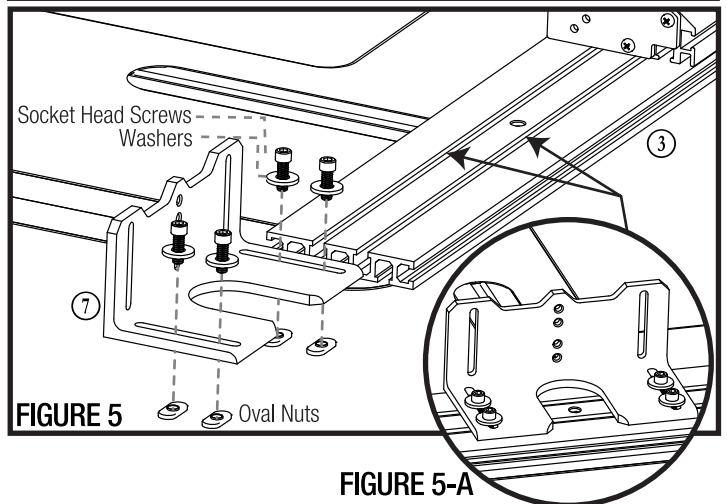

FIGURE 5-A
- (2) Leveling Screw 1/4" - 20 x 1/2"
7. Assemble (2) Socket Head Cap Screws, Washers and Oval Nuts into one of the slots on the Infeed Bracket ⑦. Repeat for the other slot. **FIGURE 5.**